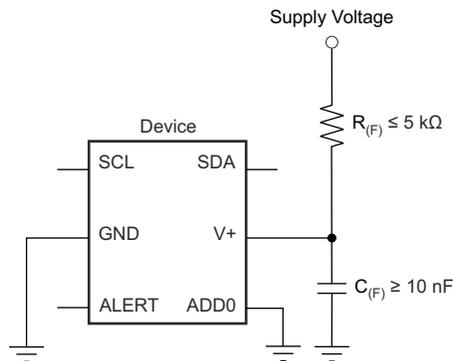

Figure 8-3. Noise Reduction Techniques (for SOT563-6 package as an example)
The TMP112 family is a very low-power device and generates very low noise on the supply bus. Applying an RC filter to the V+ pin of the TMP112 family can further reduce any noise that the device can propagate to other components. R_(F) in Figure 8-3 must be less than 5 k Ω and C_(F) must be greater than 10 nF.